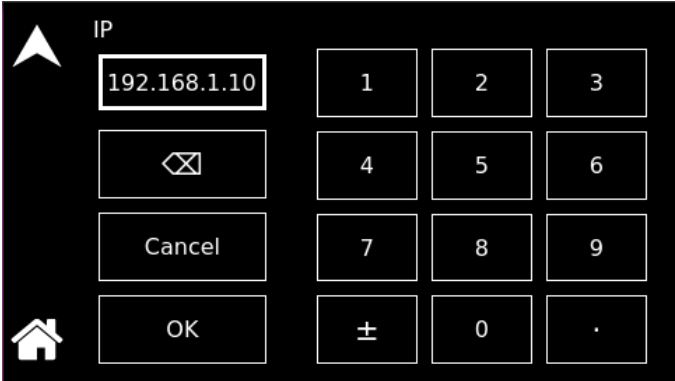

Figure 12-44. LAN Screen - IP Address
- **IP Address:** Sets the static IP address for the unit. When DHCP is turned off in the LAN CONFIG sub-menu, AUTO IP is selected, set the IP address to all zeros so that the IP address would be requested from the network; when DHCP is selected, the IP address is assigned by the network DHCP server. Refer to Figure 12-44.